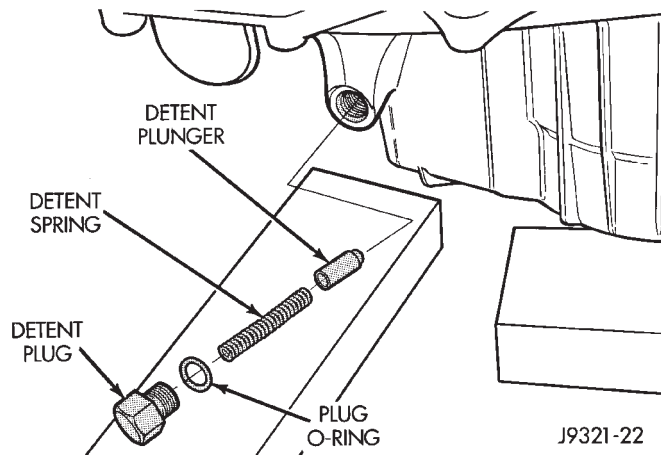

Fig. 68 Shift Detent Components
- (1) Rotate sector to Neutral position.
- (2) Install new O-ring on detent plug (Fig. 68).
- (3) Lubricate detent plunger with transmission fluid or light coat of petroleum jelly.
- (4) Install detent plunger, spring and plug (Fig. 68).
(5) Verify that plunger is properly engaged in sector.